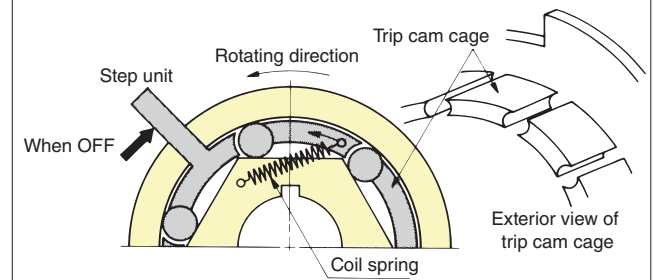

Figure 2. Switching between ON and OFF
- 1-3 Switching between ON and OFF (Figure 2)